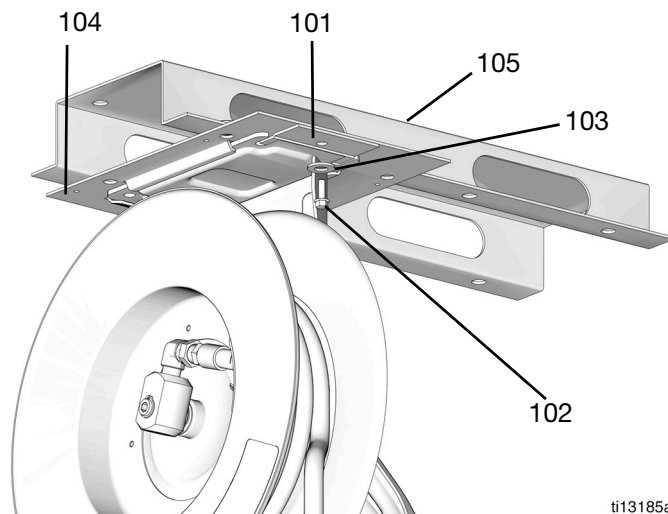

FIG. 11
1. Install the mounting channel (105) and base plate (104) (SDX Models), as shown in FIG. 11.
2. Slide the hose reel into the base plate (104) and install the hold down plate (101), washer (103), and the cap screw (102). Tighten the screw firmly (FIG. 11).
3. SDX Model Reels only: See FIG. 11, page 15. Slide the hose reel onto the base plate (104) then install the hold down plate (101), washer (103), and cap screw (102). Tighten the screw firmly.